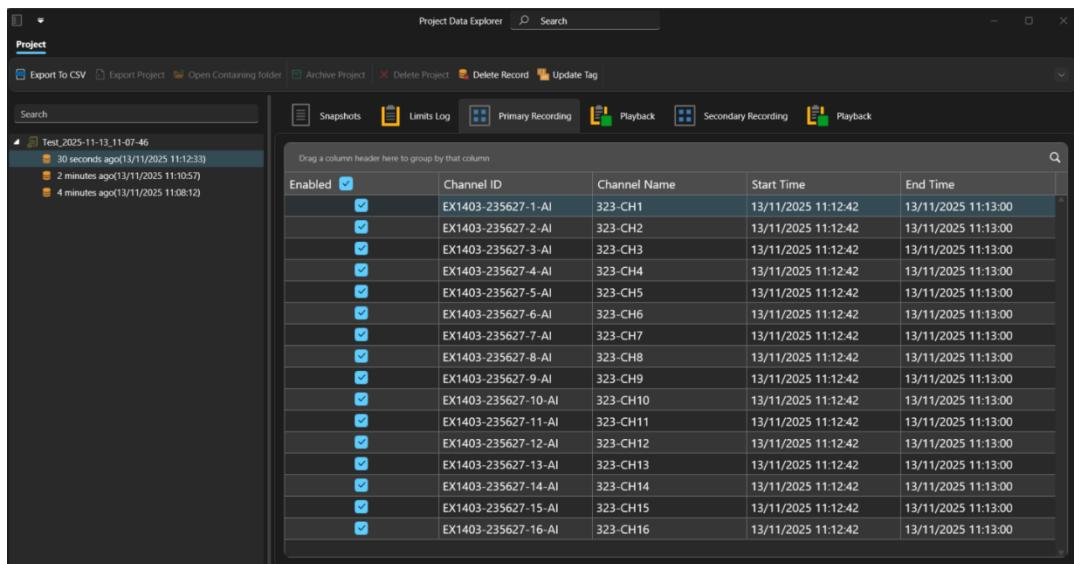

Figure 32. Data Explorer Screen
4. On the **Data Explorer** screen (Figure 32), select the recording from the column that contains the project and its recording details.